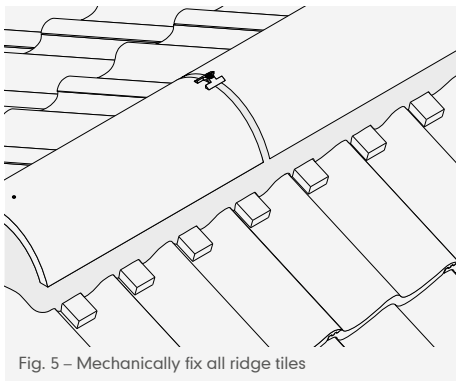

Fig. 5 – Mechanically fix all ridge tiles
- 5 To mechanically fix the ridge tiles push a plastic ridge clamp centrally between the ridge tiles into the wet mortar and secure in place by driving the 75mm stainless steel screw provided into the ridge batten. Do not over tighten (Fig. 5). When using clay ridge with interlocking pantiles, you will require a 100mm deep ridge screw pack (Code 70000, sold separately).